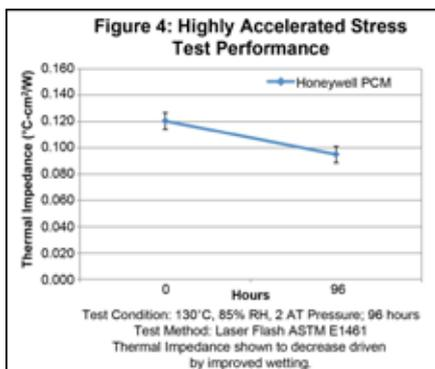

**Figure 2:** High-temperature bake performance of PCMs.
As shown in **Figures 2-4**, PCMs typically deliver a low thermal impedance (TI) ( $<0.1^{\circ}\text{Ccm}^2/\text{W}$ ) and high thermal stability over time, demonstrating excellent long-term wetting and reliability. This is true despite repeated thermal cycles, elevated temperatures and extended harsh test conditions. Specifically: 1) **Figure 2** shows the outstanding performance of a PCM in a high-temperature bake test over 1,000 hours; 2) **Figure 3** demonstrates the excellent stability of a PCM over 1,000 thermal cycles with no degradation; **Figure 4** reveals the ability of a PCM to perform under HASTs with no loss